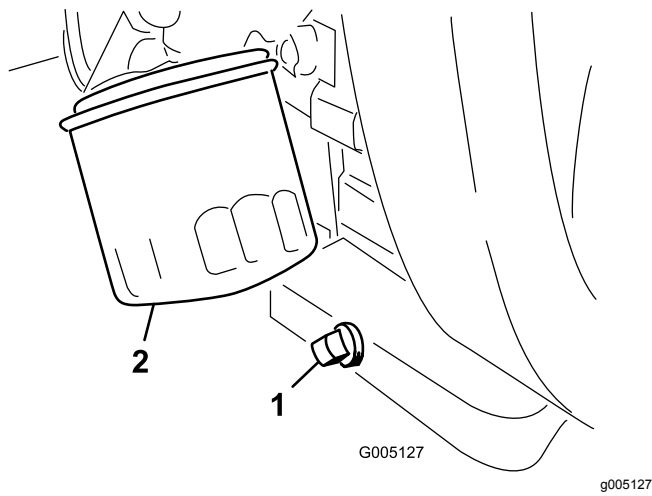

Figure 46
1. Remove the drain plug (Figure 46) and let oil flow into a drain pan. When the oil stops, install the drain plug.
2. Remove the oil filter (Figure 46). Apply a light coat of clean oil to the new filter gasket.